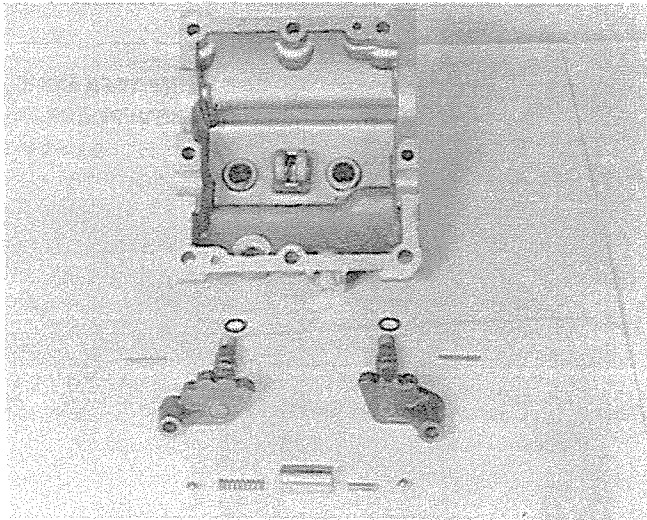

FIGURE 6
Adjustment is accomplished by moving the two locking nuts on the switch threaded shaft so the switch comes "on" when the clutch pedal is between 3/8" (9 mm) and 7/8" (22 mm) of the end of its downward travel. Measure by placing a ruler perpendicular to the pedal arm and measuring to the front of the slot in the floorboard. Check to be sure switch does not come "on" when the clutch is engaged. Figure 6.
11. Remove shifter levers, interlock sleeve, balls, spring and spacer. Figure 6.